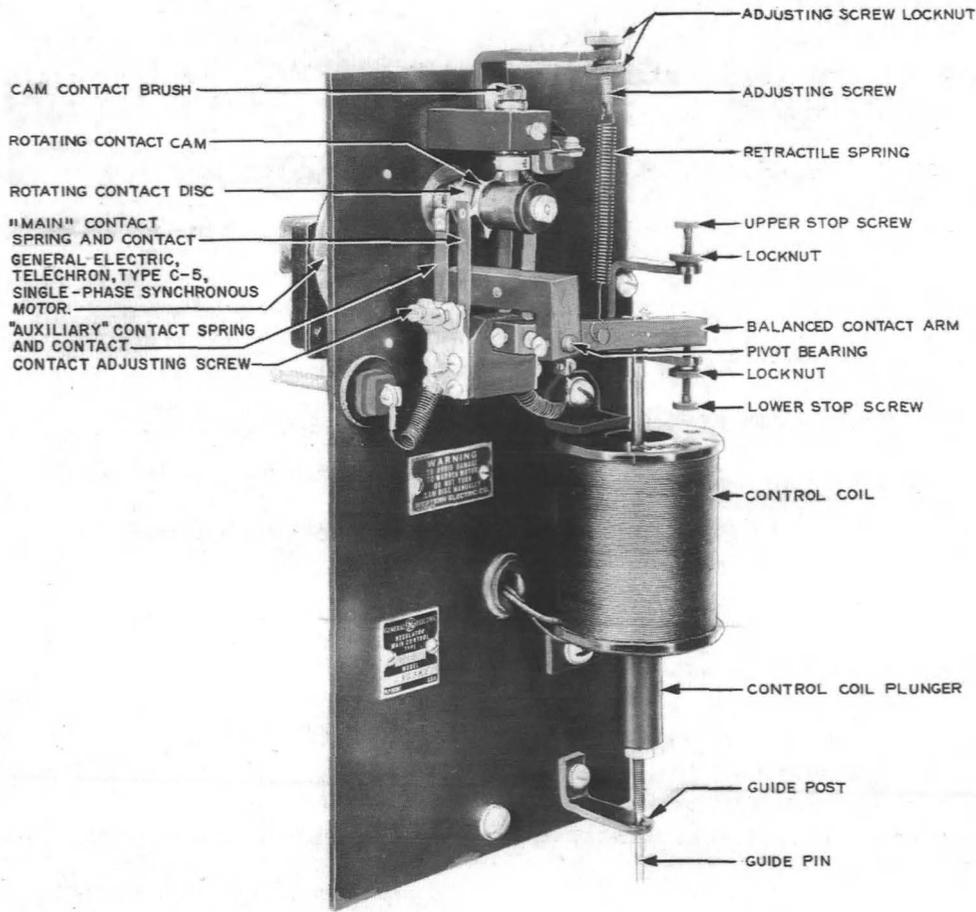

Fig. 1 - KS-5519 Controller Assembly
2.01 Fig. 1 shows the various replacement parts with their corresponding names in their proper relation to other parts of the apparatus.
2.02 When ordering parts for replacement purposes, give the name of the part as shown in Fig. 1 and also the complete nameplate data of the apparatus. Include the manufacturer's name and the KS specification and list number. For example, one control coil for the General Electric Company, KS-5519 L1 controller, 105/125 VAC, 60 cycle. Do not refer to the BSP number.